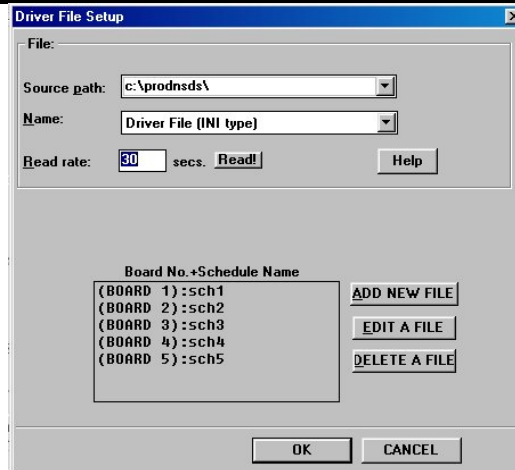

Figure 3.3 – Driver File Setup.
2. There are three options, *ADD*, *EDIT* or *DELETE* a file available for each Board. To edit a new file, select the Board you wish to make changes to and click on the *EDIT* button, (Fig 3.3).